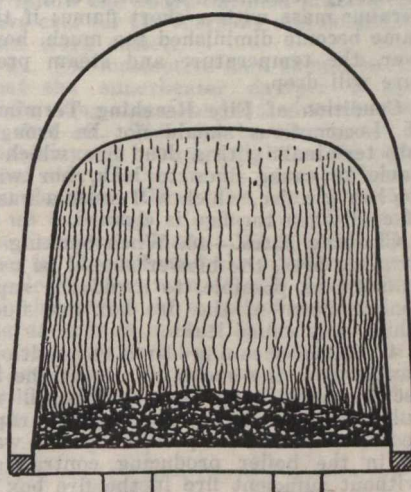

Fig. 6.
27. Fig. 6 shows the thinning action of the draft around the edges.